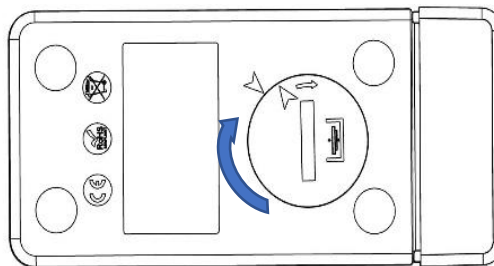

Figure 20 Battery replacement steps
- Battery Installation/change steps are shown in figure 20 as follows: